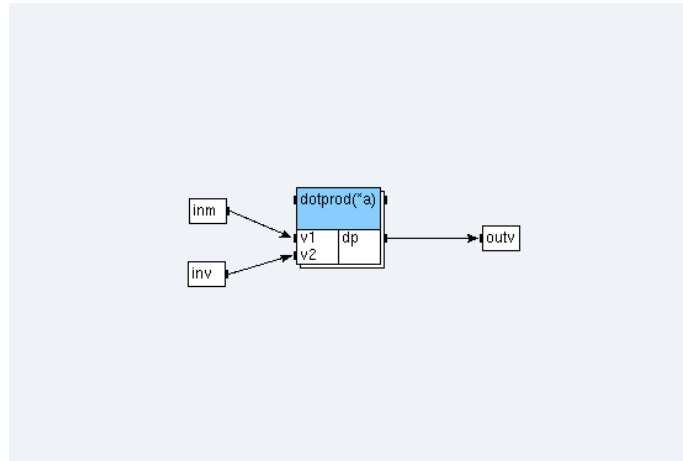

Figure 4.8: Algorithm of the function `prodmatvec`
- then create dependences to obtain an algorithm (cf. figure 4.8).